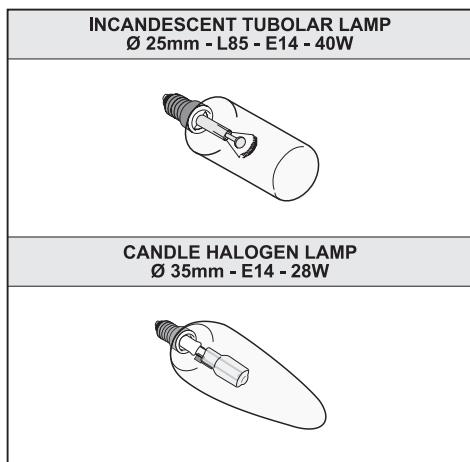

Fig.11
- **Replacing the halogen/incandescent lamps (Fig.11):**